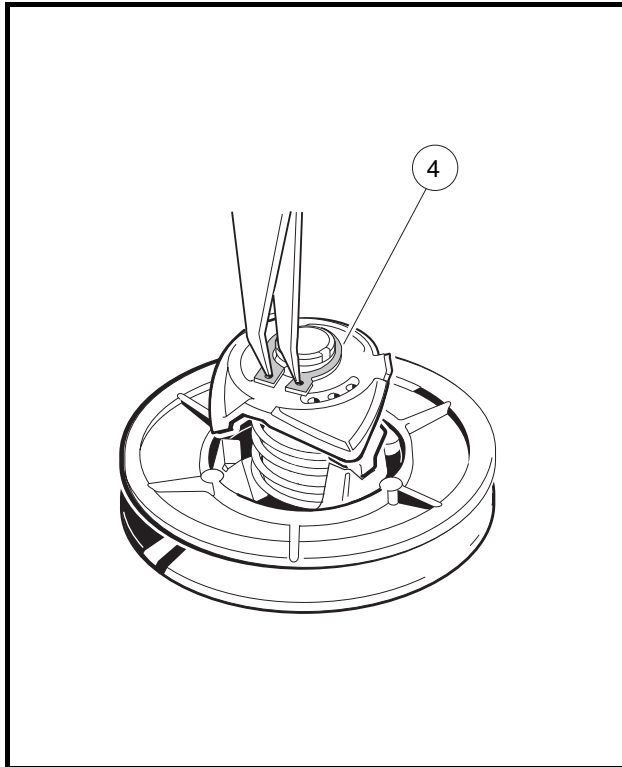

Figure 20-16 Remove Retaining Ring
1. Using external snap ring pliers, remove the retaining ring (4) (**Figure 20-16, Page 20-13**). See following **WARNING**.